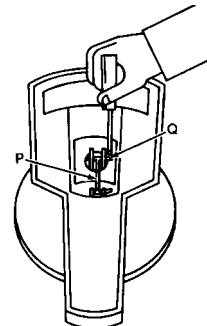

Figure 9. Scale Inverted.
8. Now carefully invert the scale as shown in Figure 9.